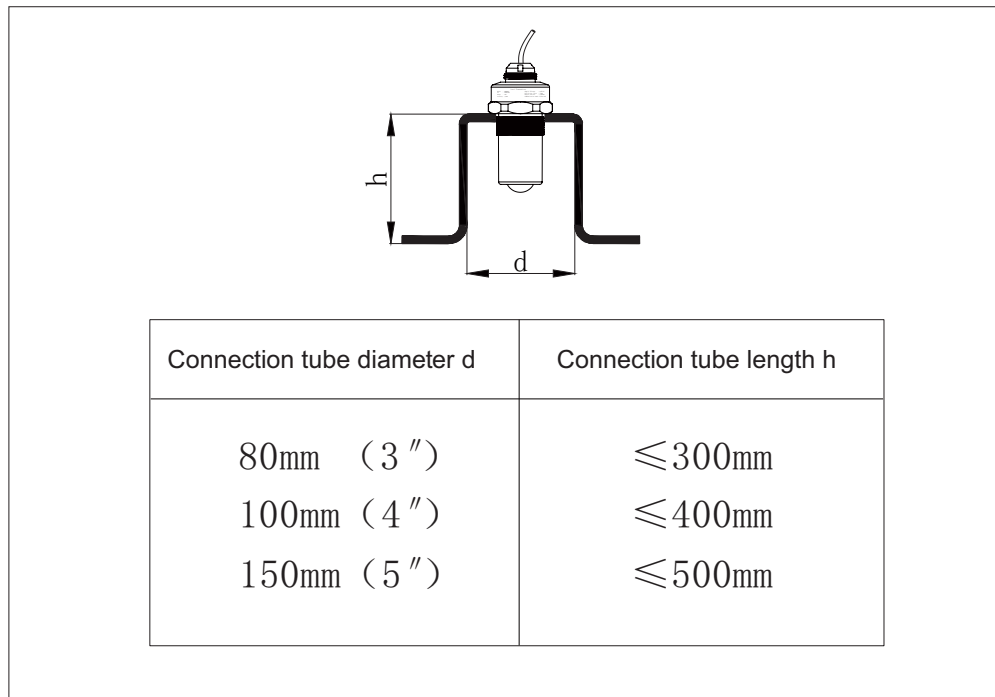

Figure 7
- ▶ If the length of the container connection is long, please refer to Figure 7. The longest installation short tube should be smaller than the size shown in Figure 7 as far as possible, and the end must be smoothed without burrs and other protrusions. If necessary, use the "false echo storage" function to eliminate the reflected signal at the end of the tanks nozzle, and you can also obtain better measurement results.